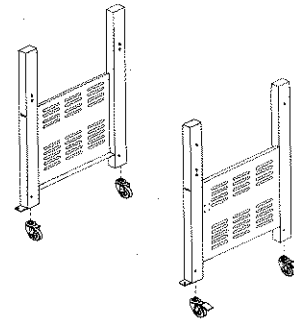

Figure 1
1. Attach wheels with no brakes to left square legs, Attach wheels with brakes to right square legs. (Fig.1)